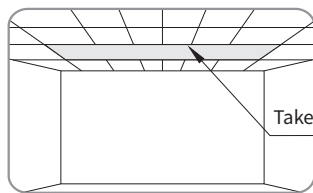
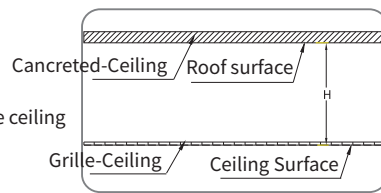

figure 1
figure 2
1. Choose a position according to the required space, and then take apart the ceiling (figure 1). Please measure the distance H between roof and ceiling surface correctly (figure 2)